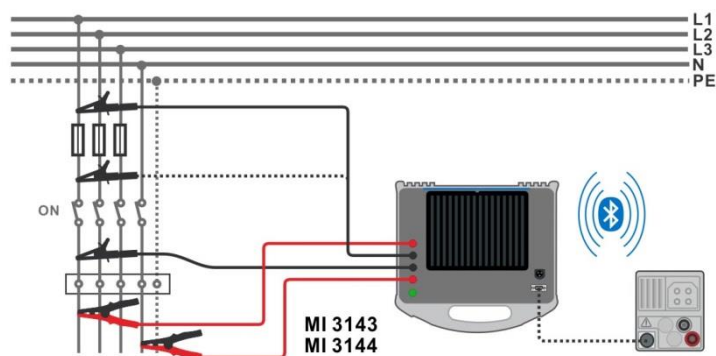

Figure 7.57: High Current resistance measurement
- Connect MI 3152(H) instrument with A 1143, MI 3143 or MI 3144 Euro Z adapter / instrument via serial RS232 or pair them using Bluetooth communication. See chapter **4.6.5.1 Configuration of measuring adapters**.
- Check Bluetooth communication active sign if MI 3143 or MI 3144 Euro Z instrument is connected to MI 3152(H) instrument via Bluetooth communication.
- Connect test leads to the object under test. See **Figure 7.57**.